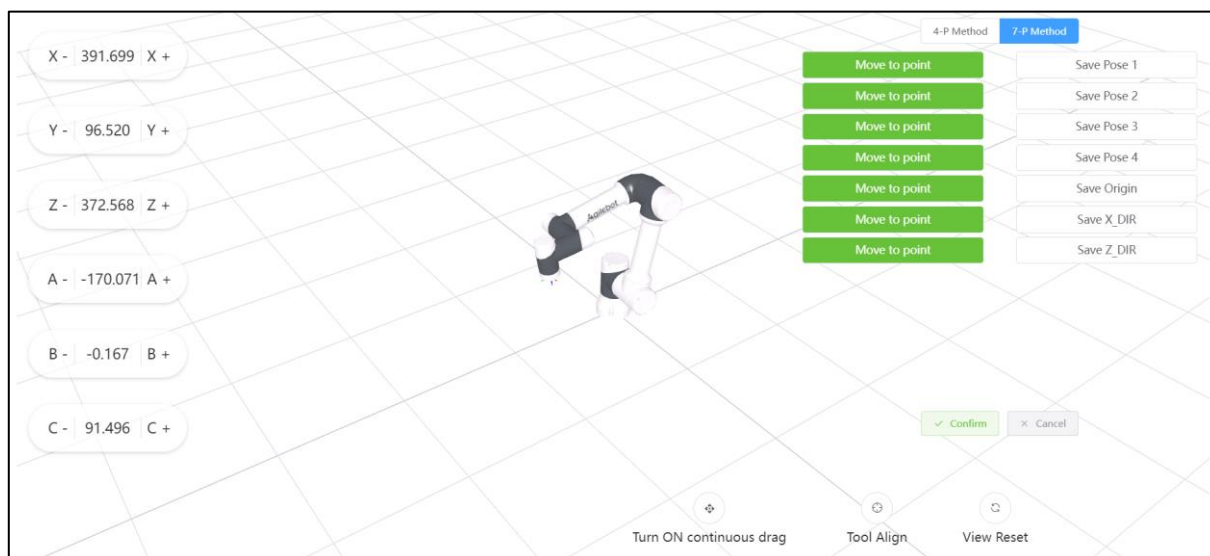
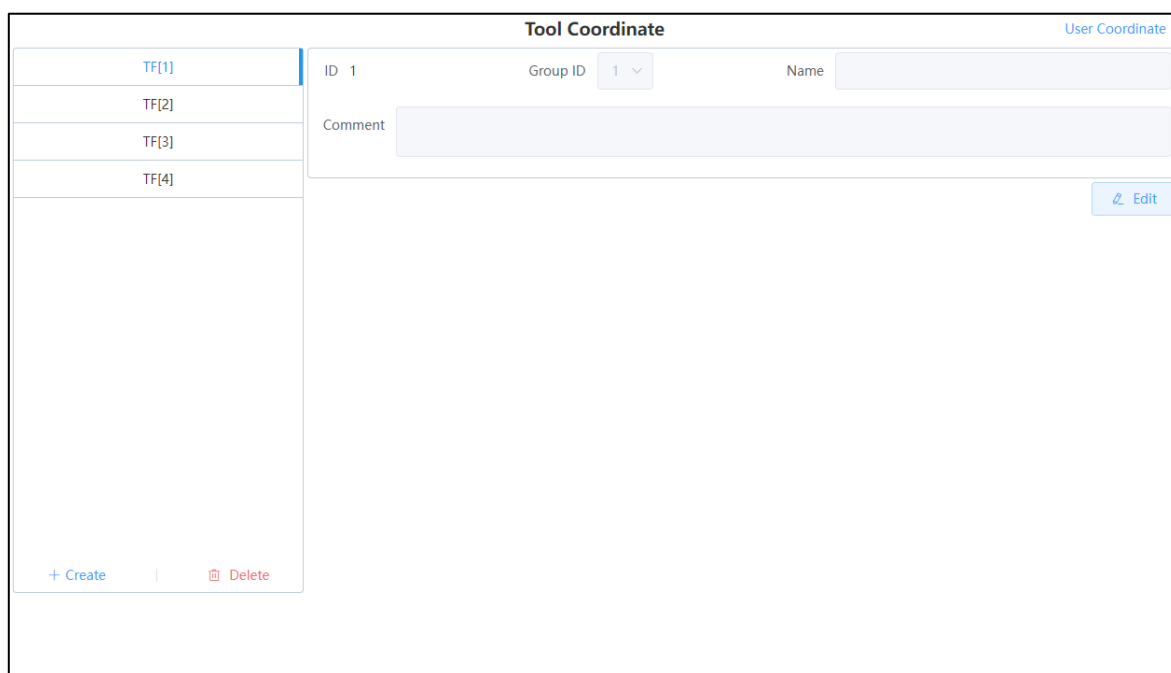

Fig. 2.17 Tool Coordinate System Setting Interface 6
Fig. 2.18 Tool Coordinate System Setting Interface 7
6. After teaching of 7 poses,.Please save after confirmation". At this time, click "Confirm" in Fig. 2.17, and it may prompt "Coordinate system saved successfully", as shown in Fig. 2.18. At this time, the tool coordinate system has been set.